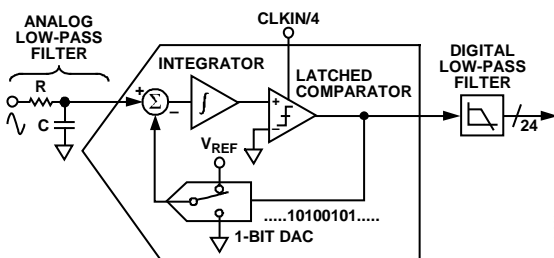
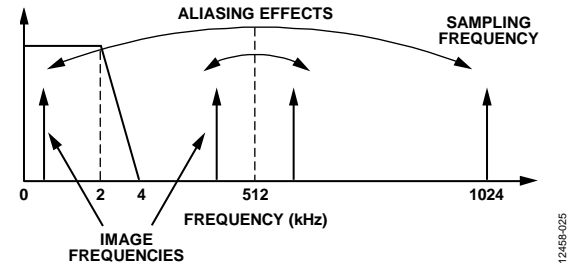

Figure 23. First-Order  $\Sigma$ - $\Delta$  ADC
Figure 25. Aliasing Effects
The ADE7903 has three second-order  $\Sigma$ - $\Delta$  ADCs. For simplicity, the block diagram in Figure 23 shows a first-order  $\Sigma$ - $\Delta$  ADC. The converter is composed of the  $\Sigma$ - $\Delta$  modulator and the digital low-pass filter (LPF).
Figure 23 also shows an analog low-pass filter (RC) on the input to the ADC. This filter is placed outside the ADE7903, and its role is to prevent aliasing. Aliasing is an artifact of all sampled systems, as shown in Figure 25. Aliasing refers to the frequency components in the input signal to the ADC that are higher than half the sampling rate of the ADC and appear in the sampled signal at a frequency below half the sampling rate. Frequency components above half the sampling frequency (also known as the Nyquist frequency, that is, 512 kHz) are imaged or folded back down below 512 kHz. This folding happens with all ADCs, regardless of the architecture. In Figure 25, only frequencies near the sampling frequency of 1.024 MHz move into the bandwidth of interest for metering, that is, 40 Hz to 3.3 kHz or 40 Hz to 2 kHz. To attenuate the high frequency noise (near 1.024 MHz) and prevent the distortion of the bandwidth of interest, a low-pass filter must be introduced. It is recommended that one RC filter with a corner frequency of 5 kHz be used for the attenuation to be sufficiently high at the sampling frequency of 1.024 MHz. The 20 dB per